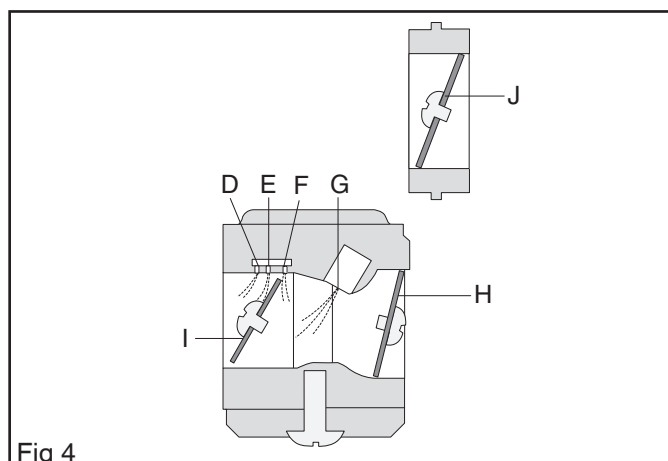

Fig 4
In the cold start mode (see Figure 4) the choke valve (H) is fully closed. This increases the vacuum in the carburettor so that fuel is sucked more easily from all the diffuser jets (D, E and F). The throttle valve (I) is partly open. Extra air inlet (J) is closed. (see Figure 4)